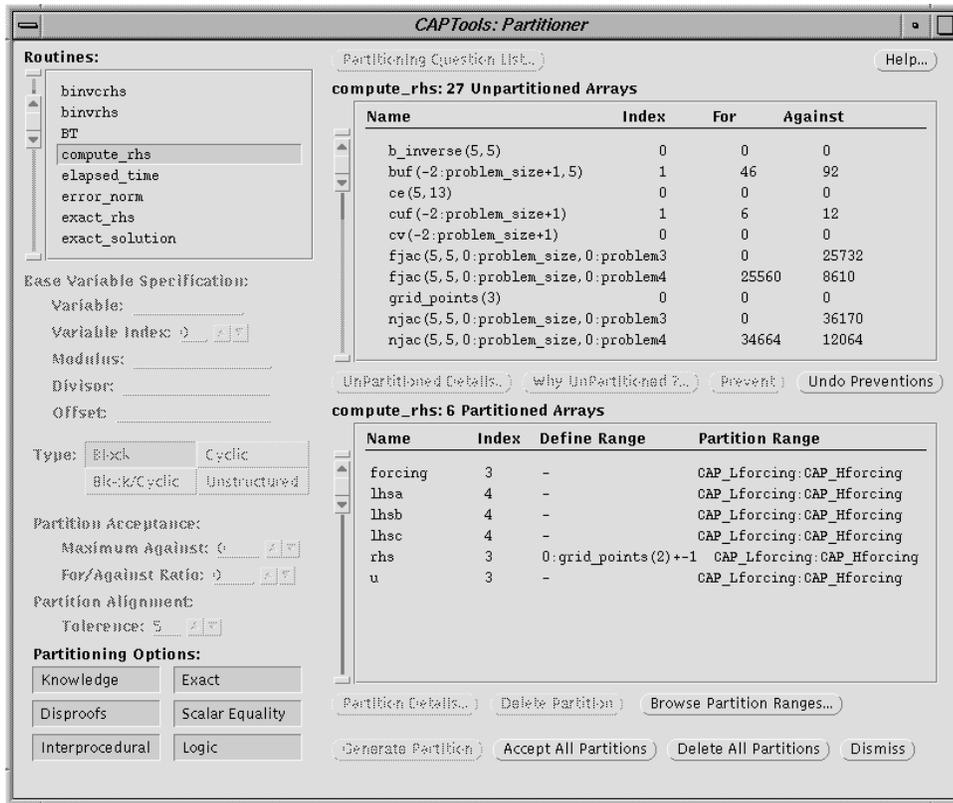

Figure T5-4: The Partitioner window after partitions on six arrays were deleted.
6. **Remove unwanted partitions.** If you use the result produced from Step 4 to generate message-passing code, you would notice that CAPTools place quite a few communication calls inside routine COMPUTE_RHS, which exchange boundary values of some of the working arrays (such as *qs*, *rho_i*...) for the partitioned dimension. These boundary values, in fact, can be calculated in the routine instead of being communicated from neighbors to improve the performance. This kind of improvement can be achieved within CAPTools by removing partitions on the relevant arrays (although it is not very obvious and intuitive). In the **Partitioner** window, select routine "compute_rhs". Select "*qs*" in the **Partitioned Array** list and click the **Delete Partition** button. Apply the same procedure to arrays: *rho_i*, *square*, *us*, *vs*, and *ws*. Figure T5-4 is what you will see after this process from which partitions on six arrays have been removed.